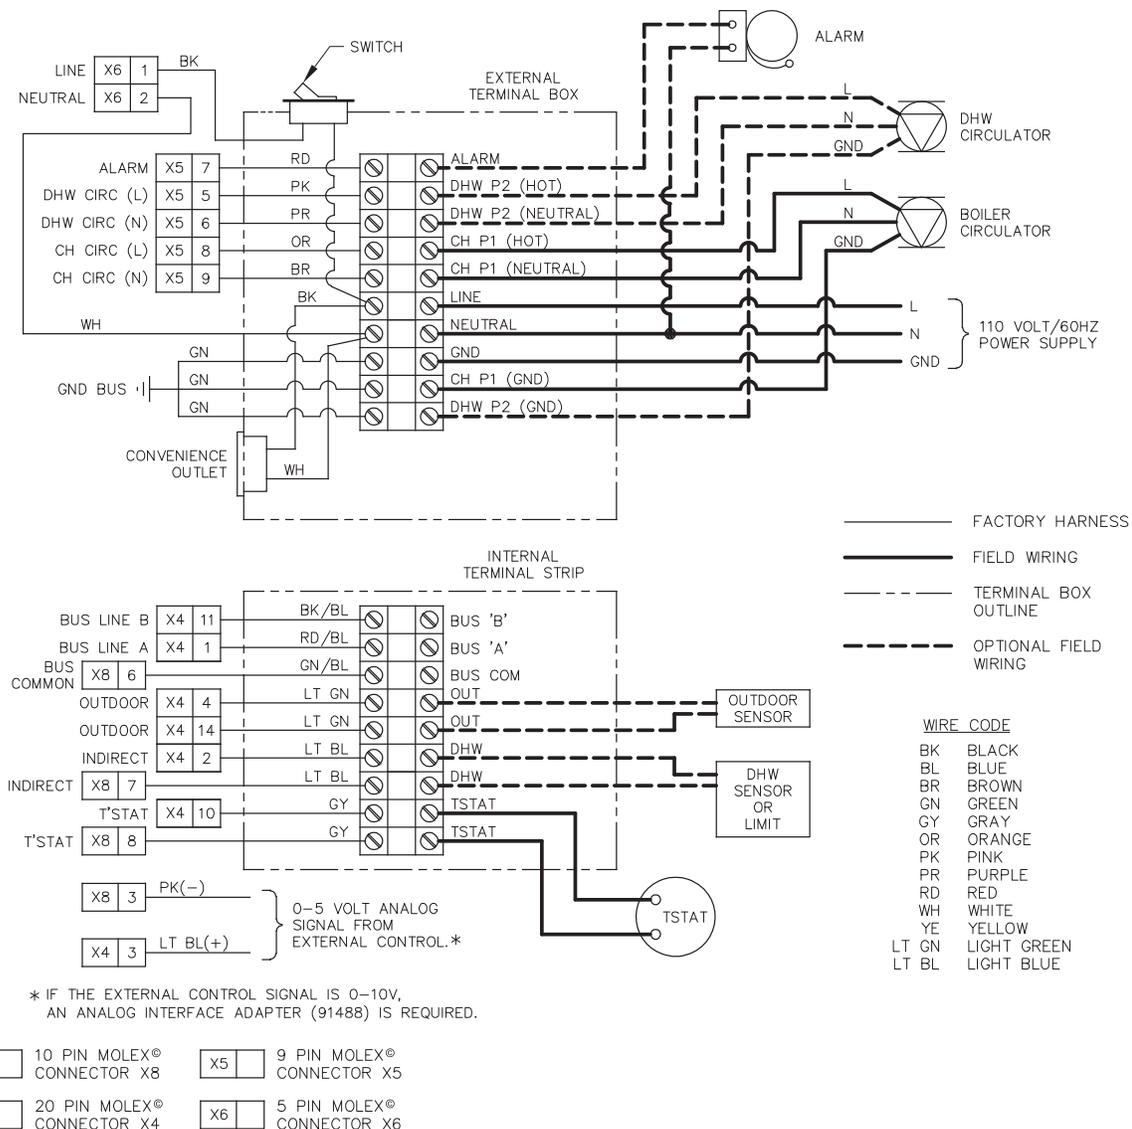

Figure 6.1: Wiring Connections to Boiler Junction Box
1. Refer to Figure 6.1 for connecting the power supply to the boiler.
4. Wire the burner service switch in the hot line to the boiler as shown in Figure 6.1.
7. Figure 6.1 shows connections to boiler circulator.
8. The thermostat connections are shown in Figure 6.1 or 6.2. The setting for the thermostat anticipator is 0.56 amps.